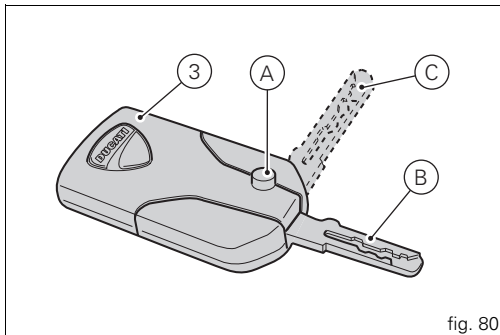

fig. 80
The key (3) metal part is hidden inside the key: press button (A, fig. 80) to fully open the metal part, i.e. position (B, fig. 80). Hold depressed button (A, fig. 80) you to move the metal part and set it to the middle position (C, fig. 63); once in place, release button to lock.
With the vehicle in Key-On and "engine off", if the presence of the active key (3, fig. 80) is not detected for thirty consecutive seconds, the motorcycle will turn off automatically without any action by the rider.